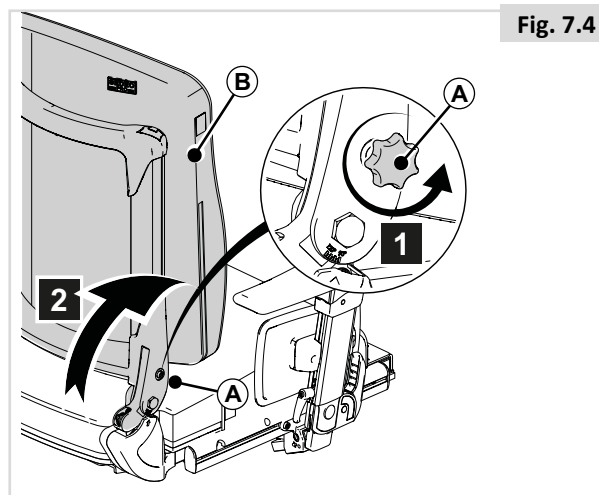

Fig. 7.4
7.3 Flip down backrest quick release (Fig. 7.4)